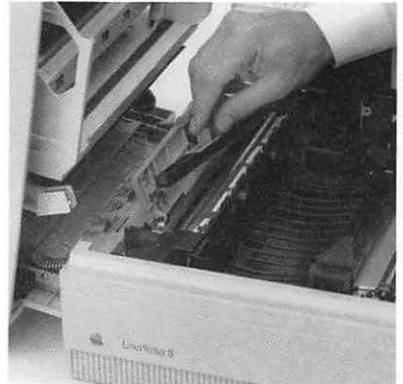

Figure 6-9
6. Insert the new cleaning pad into the fixing roller assembly. (See Figure 6-9.) Then close the green cover.